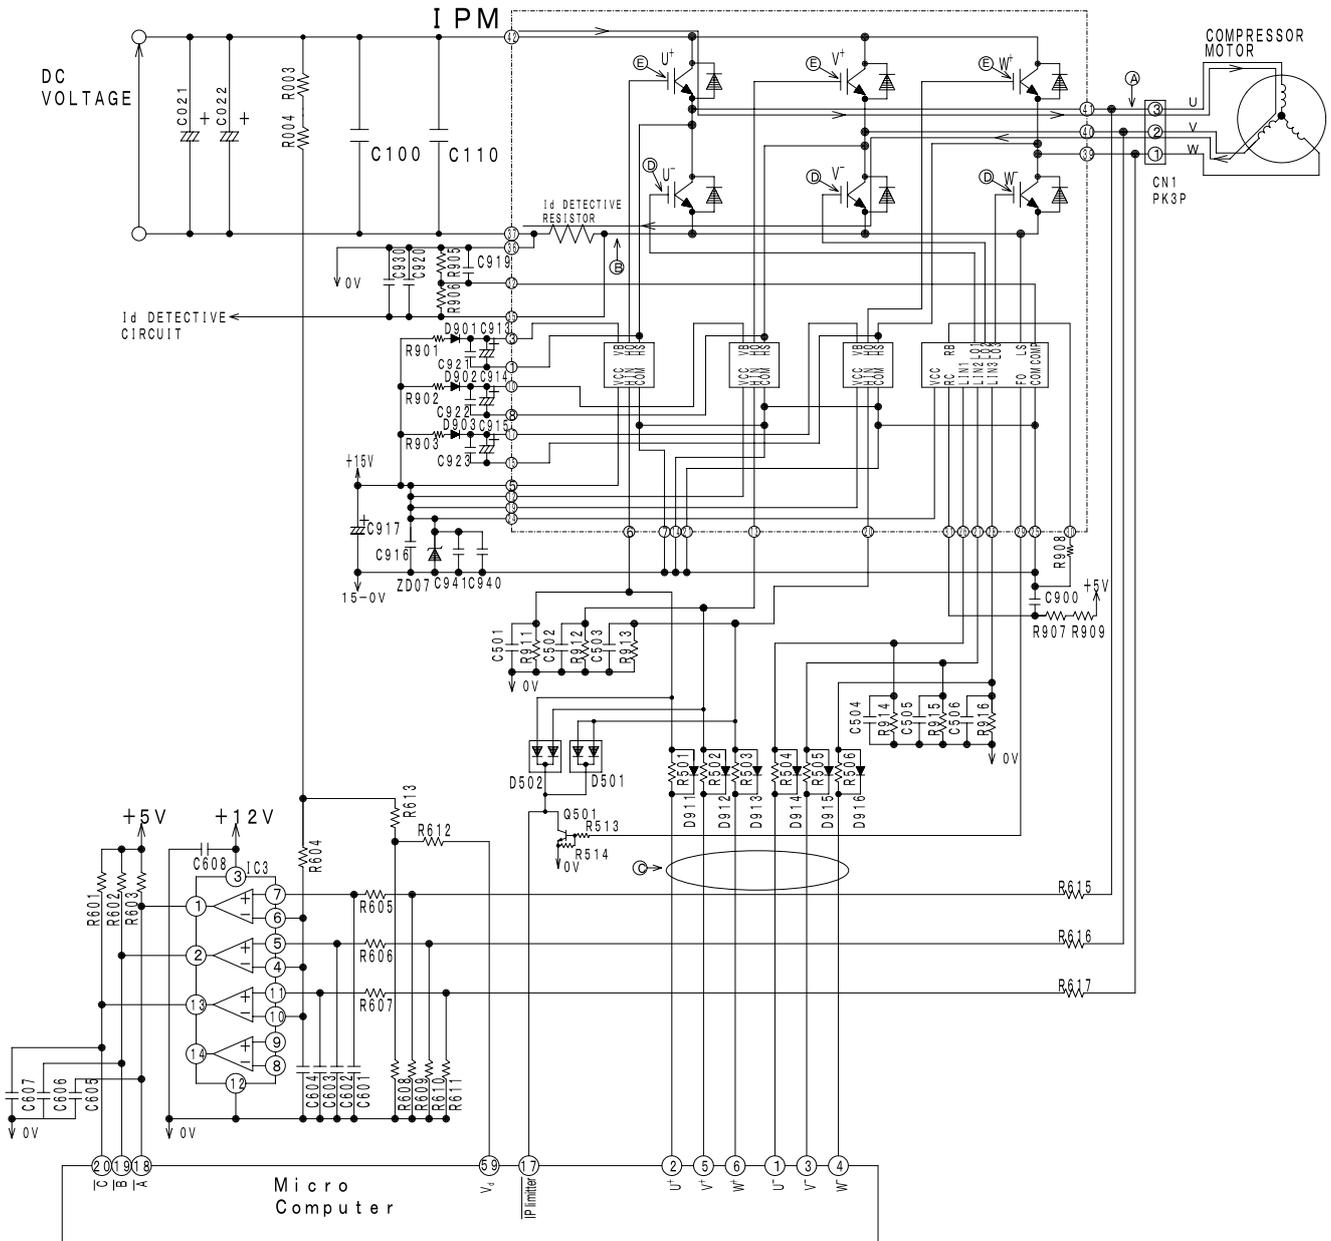
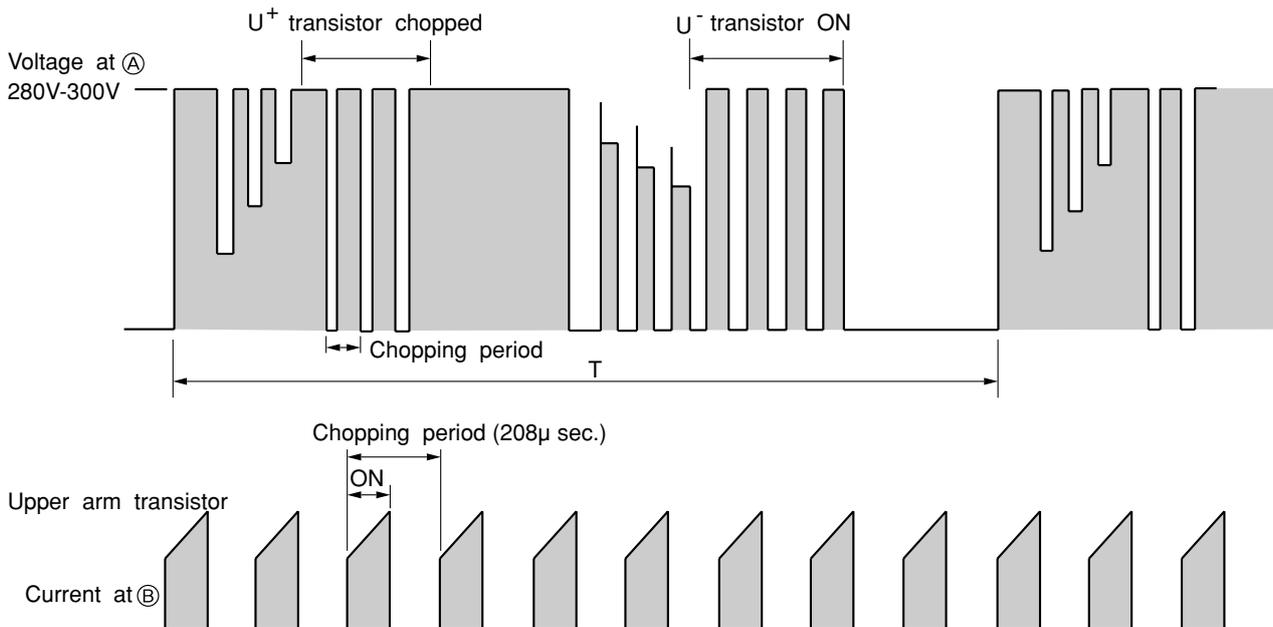

Fig. 4-1 Intelligent power module circuit (U⁺ is ON, V⁻ is ON)
Fig. 4-3 Voltage waveform at each point
- Fig.4-1 shows the intelligent power module and its peripheral circuit. The three transistors on the positive (E) side are called the upper arm, and the three transistors on the negative (D) side, the lower arm.
At point ⑤: U⁺ is ON, V⁻ is ON (circuit in Fig. 4-1)
Fig. 4-3 shows voltage waveform at each point shown in Figs. 4-1 and 4-4. First half of upper arm is chopper, second half is ON, and first half of lower arm is chopper, second half is ON.
- (1) When U⁺ transistor is ON: U⁺ transistor → U coil → V coil → V⁻ transistor → DC current detection resistor → Point ③ (Fig. 4-1)
Since current flows at point ㊸ only when U⁺ transistor and V⁻ transistor are ON, the current waveform at point ㊸ becomes intermittent waveform as shown in Fig. 4-3. Since current at point ㊸ is approximately proportional to the input current of the air conditioner, input current is controlled by using DC current (I_d) detection resistor.